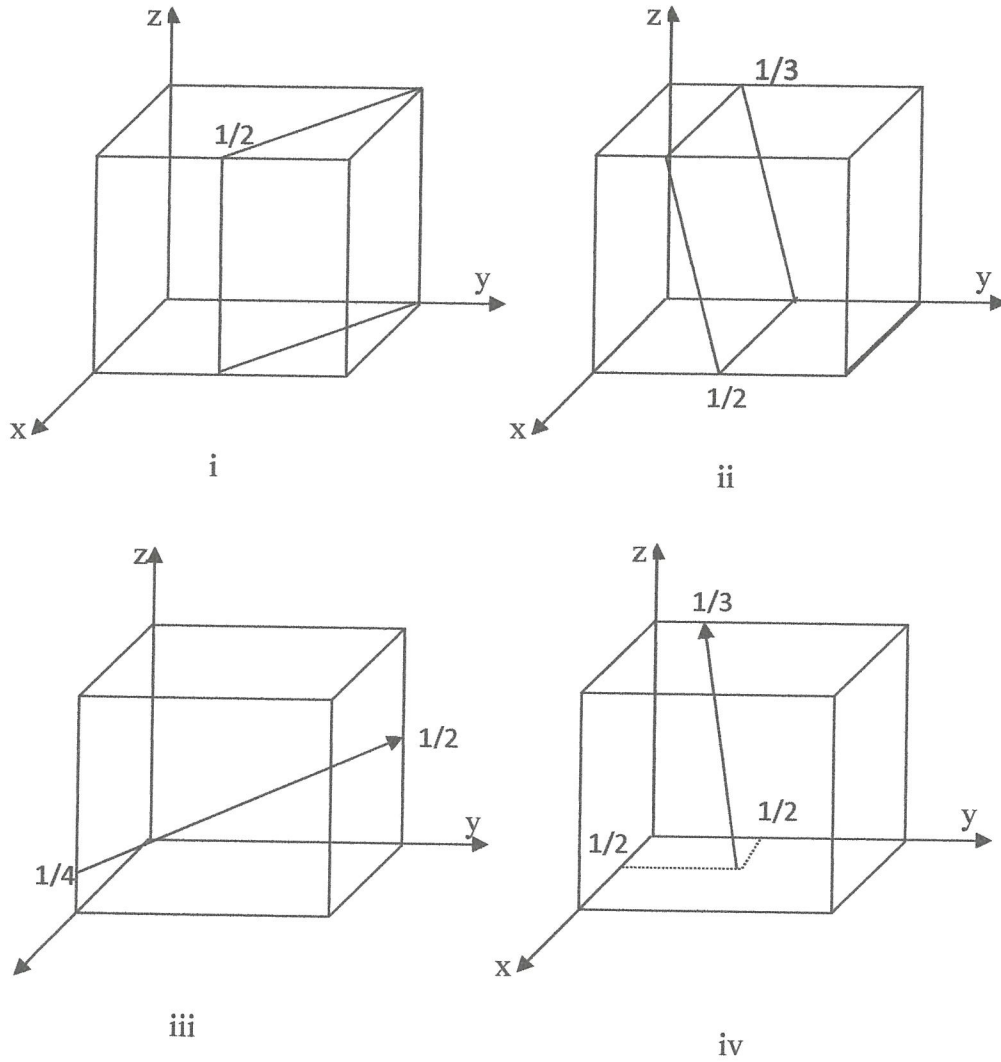

Figure Q2 (b i-iv)
- Q2** (a) Define the meaning of monomer and polymer. Give ONE (1) example of each. (2 marks)
- (b) Refer to **Figure Q2(b i-iv)**, identify all the direction and plane. (6 marks)